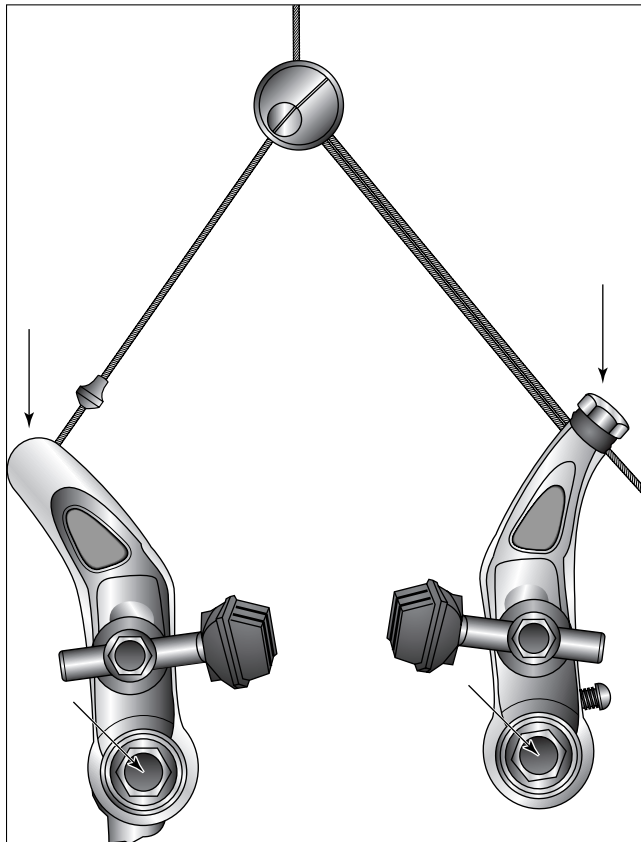

Figure 16-5:
- ✔ **Brakes:** Spray some oil into the brake pivot points to keep them in working order and to prevent rust (see Figure 16-5). Be careful not to get any on the brake pads or rims, because this will impact your bike's braking capacity. Also, give a shot of lube to the spot where the cable is attached.